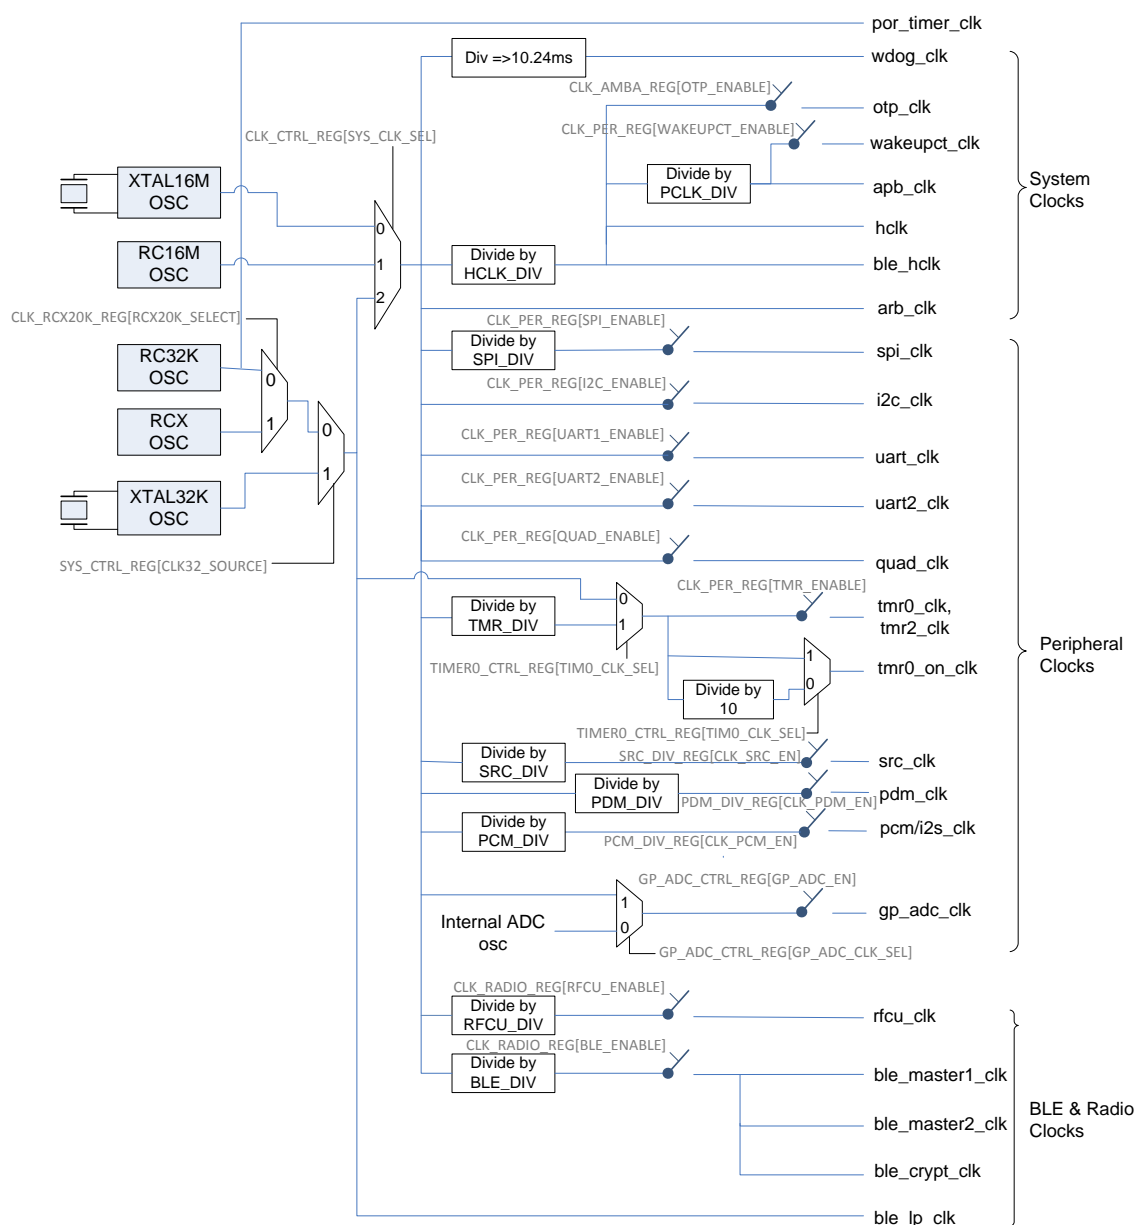

Figure 23: Clock Generation Block Diagram
The clock names depicted in Figure 23: Clock Generation Block Diagram are explained in Table 32:
- When the SPI block is set to Slave mode, then the spi_clk (as depicted in Figure 23) should be at least 4x the clock frequency provided by the external SPI Master. This is required for proper sampling of the data line.